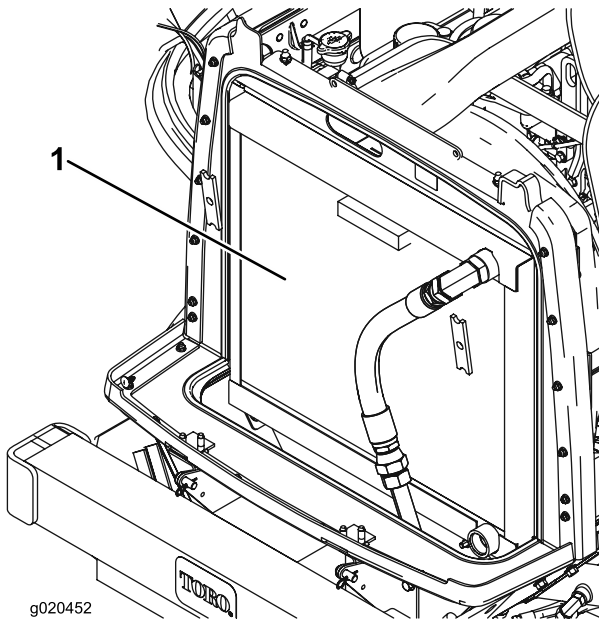

Figure 65
3. Clean both sides of the radiator/oil cooler area thoroughly with compressed air (Figure 65).